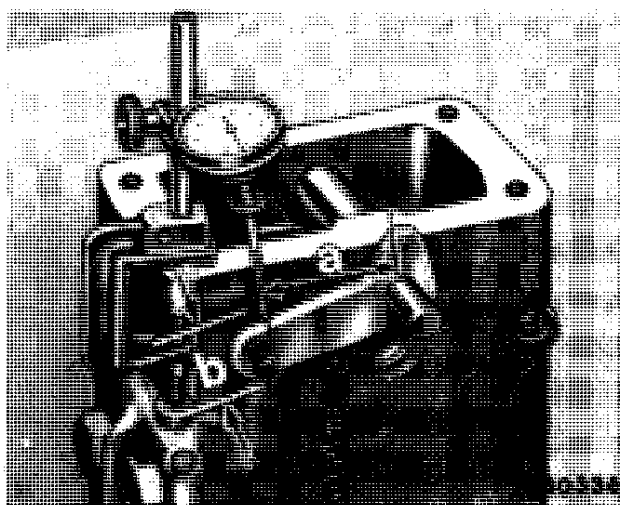

Fig. 11 — Adjusting Valves
6. With the rocker held in neutral position, install a dial indicator with a minimum travel of 0.14 in. (= 3.6 mm). Seat dial indicator on control lever (see "a", fig. 11) at a distance of 2 in. (= approx. 50 mm) measured from the center of control lever shaft. Align dial indicator so that there is a sufficient distance to measure on both sides. Set dial indicator at zero.